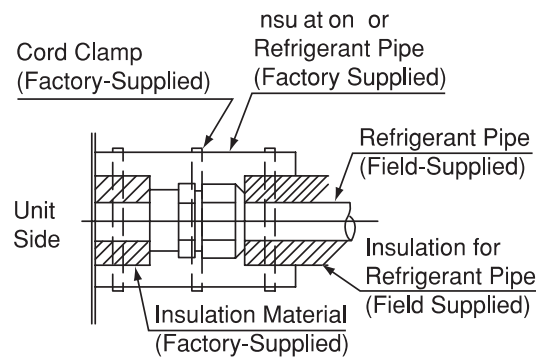

Fig. 5.3 Insulation on Pipes
- (3) After connecting the refrigerant piping, seal the refrigerant pipes by using the factory-supplied insulation material as shown in Fig. 5.3.